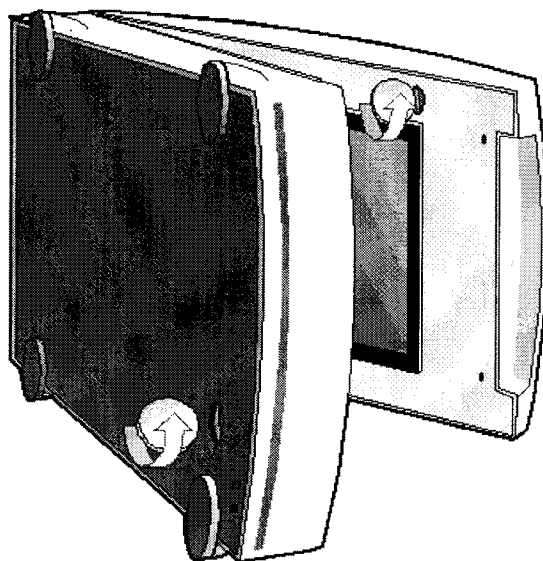

Fig. 2.2
2. Unlock the locking screws by rotating counter-clockwise with a small coin (Figure 2.2). The screw pushes out a small distance, nearly even to the bottom of the densitometer and the transparency module.